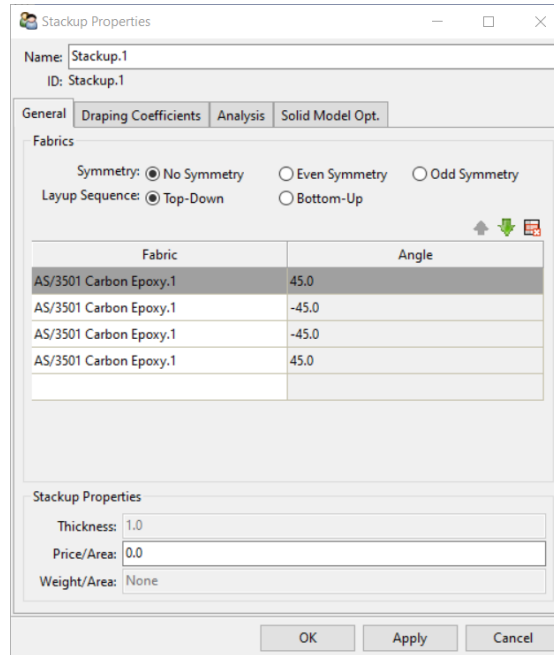

Figure 5. Creating a new Stackup Sequence for the symmetric laminate.
44. Do the same for ply 2 to 4 with angles of -45, -45 and 45 degrees. You should expect the Stackup Properties look like Figure 5.